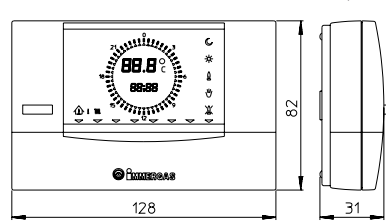
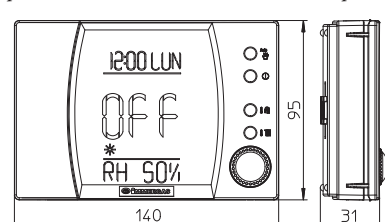

Fig. 1-4
Fig. 1-5
- There are two types of remote controls available: Comando Amico Remoto remote control (CAR) (Fig. 1-4) and Super Comando Amico Remoto remote control (Super CAR) (Fig. 1-5) both with room timer thermostat functioning. In addition to the functions described in the previous point, the chrono-thermostat panels